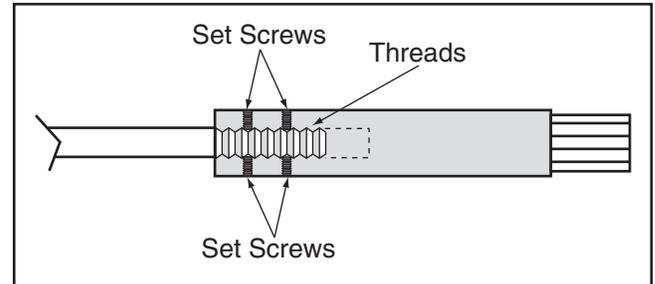

Figure 8. Example of new drawbar.
7. Thread the new drawbar shaft into the bottom of the new bolt head, as shown in **Figure 8**.
Note: *We recommend the addition of four M5-8 x 10 set screws applied through the bolt head to further secure the drawbar shaft, as shown in **Figure 8**.*